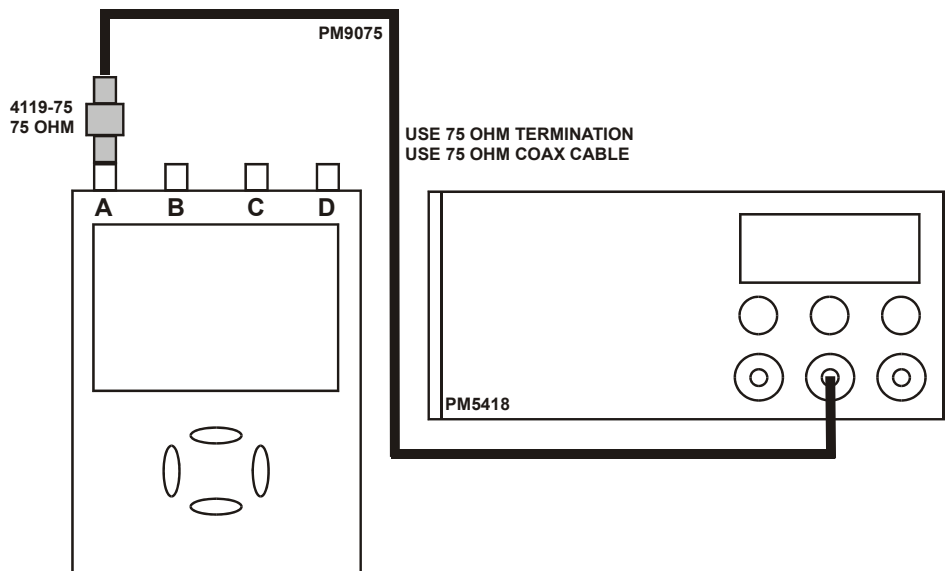

Figure 4-11. Test Tool Input A to TV Signal Generator
1. Connect the Test Tool to the TV Signal Generator as shown in Figure 4-11.